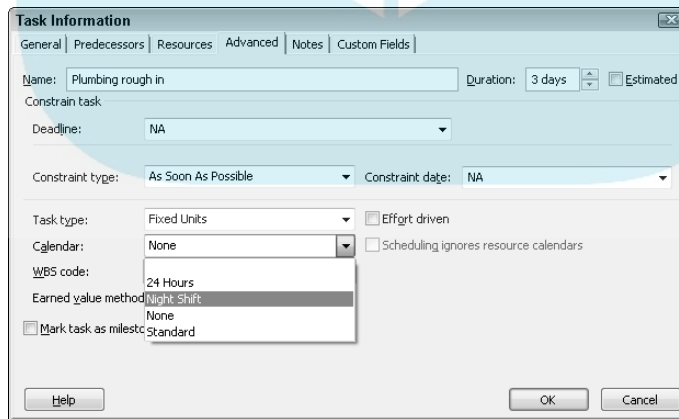

Figure 3-6: You can apply any of the three calendar types to tasks in your project.
- 3. From the Calendar drop-down list, choose a different Base calendar, as shown in Figure 3-6.**